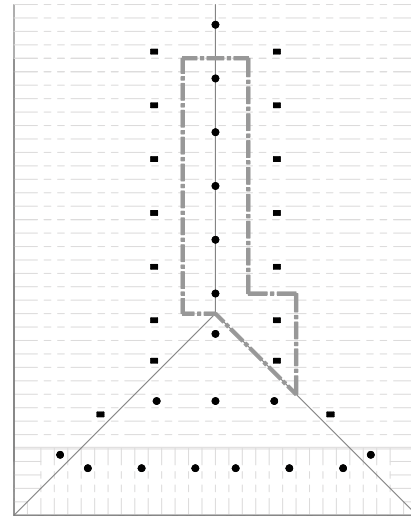

FIGURE 15A
- Calculate the most demanding 7 contiguous sprinklers with a maximum of 5 sprinklers along the ridge plus the 2 most demanding sprinklers within the hip area. See FIGURE 15A.